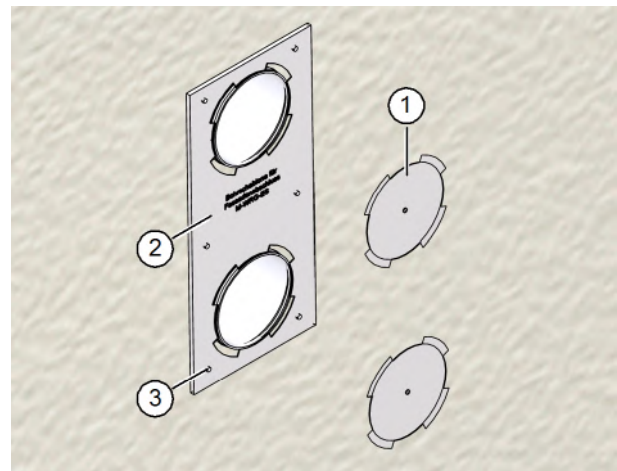

Fig. 17: Drilling the holes
- ▶ Press the pre-punched cut-outs (item 1 in Fig. 17) for the ventilation pipes out of the drilling template (item 2 in Fig. 17).
- ▶ Position the drilling template (item 2 in Fig. 17) correctly on the ventilation pipes and flush with the facade.
- ▶ Use the 6 mm masonry bit to drill six holes, roughly 40 mm deep, in the external wall at the points indicated on the drilling template (item 3 in Fig. 17).